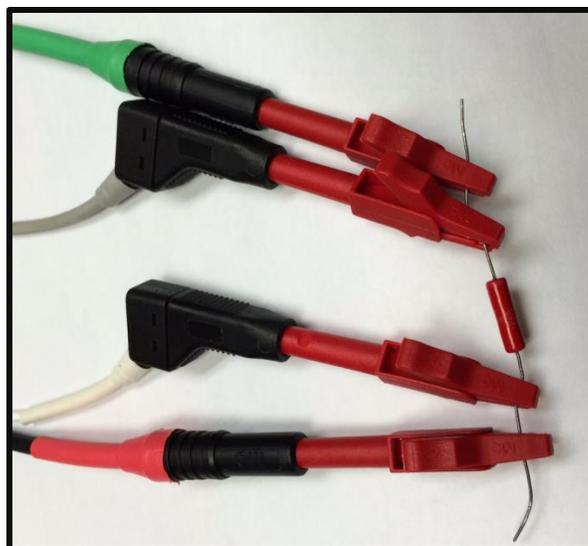

Figure 1: Picture demonstrating how to connect to a resistor using the 4-electrode configuration.
A resistor, preferably 1 k Ω , will be required. If using a 1 k Ω resistor, the exact same procedure for the internal dummy cell test can be used here. Please see the How To Guide – Subject: Performing an Internal Dummy Cell Checkout Test for instructions. If starting from the Voltammetry Checkout experiment file, with the Advanced Panel open change the “Cell to Use” from Internal to External. If a 1 k Ω resistor cannot be obtained, another resistor can be used, but the experimental parameters will need to be adjusted to fit the capabilities of the instrument. For example, if a 100 k Ω resistor is used and the voltage is swept from -1 to +1 V, the maximum current will be 10 μ A. Therefore, the current range should be set to the 20 μ A range, not the 20 mA range used previously with the internal dummy cell (1 k Ω). If a small resistor is used, such as 1 Ω , the maximum measurable current of the instrument may need to be considered as this would generate a maximum of 1 A of current if the voltage is swept from -1 to +1 V. Regardless of the resistor being used, it should be connected using the cell cable and the 4-electrode configuration shown in Figure 1. Notice that the reference (RE) and sense (SE) leads are closest to the resistor, while the counter (CE) and working (WE) leads are further away. This configuration separates the current carrying leads (CE and WE) from the voltage carrying leads (RE and SE) and positions the voltage carrying leads closest to the resistor to ensure the most accurate measurement.